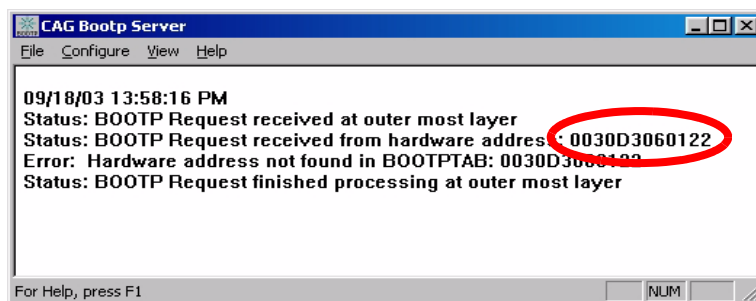

Figure 13 Bootp Server
- 3 Now turn on the module with the Firmware and view the Bootp Server window. After some time the Bootp Server will display the request from the Firmware with the hardware (MAC) address (this information is also stored in the file trace.txt in the Bootp server directory, if Log to Disk is enabled), see Figure 13 on page 73.
- 4 Identify your Firmware by the MAC address, see Figure 13.
When using this **Bootp** mode, the parameters are not written into the non-volatile memory of the card. If you delete this Bootp Configuration, the LAN Interface will show up as shown in **Figure 13** on page 73 (**Bootp** mode).